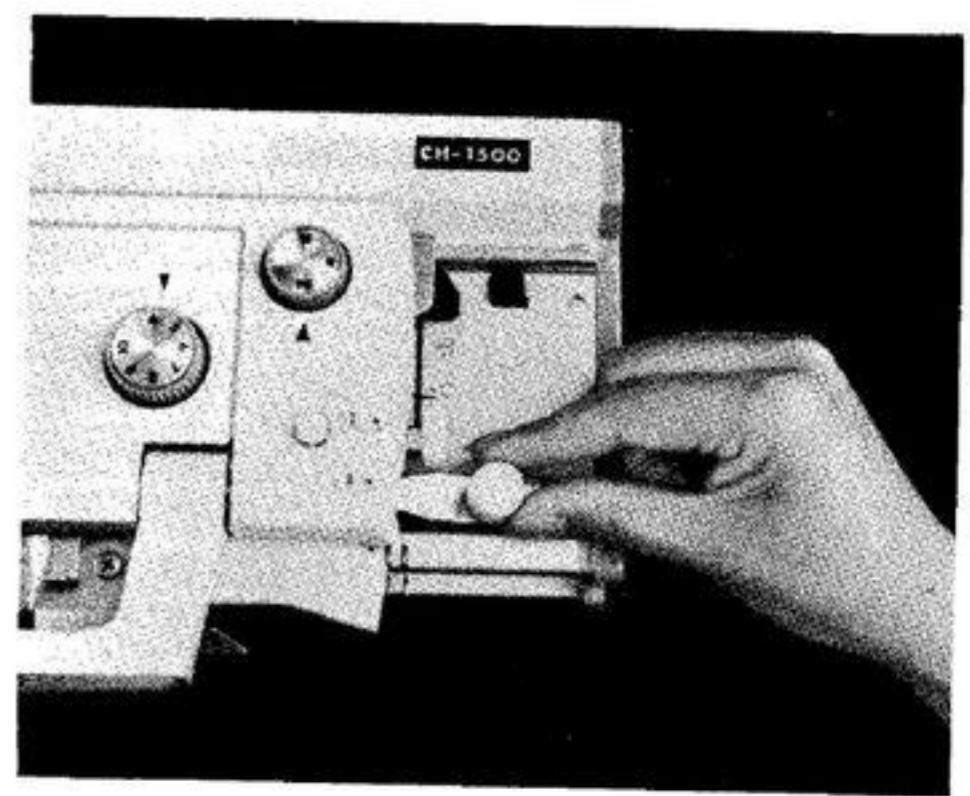

Fig. 10
6. Detach Carriage Locking Plate by unscrewing plastic knob. (Fig. 10)